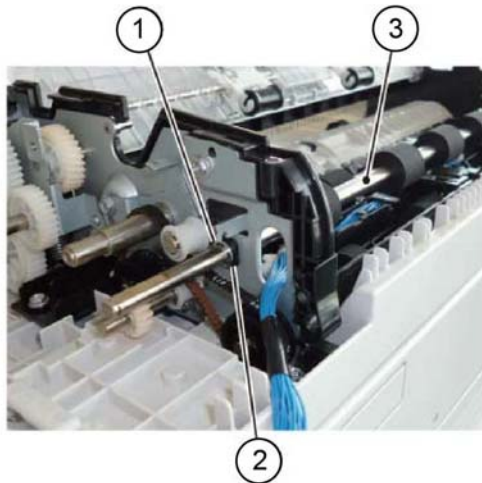

Figure 9 Takeaway roll removal
15. Remove the rear bearing, then the DADF takeaway roll, **Figure 9:**
- a. Remove the E-clip (1).
- b. Remove the bearing (2).
- c. Remove the DADF takeaway roll (3).